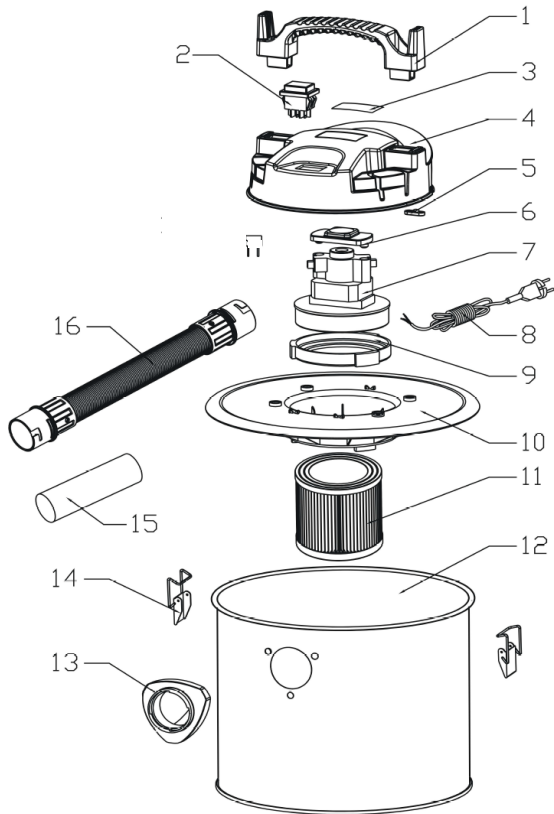

Рис. 1 / Vykres / Kreslenie / Obrazek / Рисуване / Desen / Kép / Рис. / Мал.
Before connecting the hose, install the housing lid (Fig. 1, Pos. 4) with the motor unit (Fig. 1, Pos. 7) onto the metal container (Fig. 1, Pos. 12).
2. Secure the lid using the lid clamps (Fig. 1, Pos. 5) by pressing them firmly against the housing.
1. To connect the hose to inlet A (suction), insert the metal hose (Fig. 1, Pos. 16) into the inlet port (Fig. 1, Pos. 13) and turn it counterclockwise until it locks in place. To disconnect, turn it clockwise and remove the hose.
1. Before emptying the tank, switch off the vacuum cleaner using the power switch (Fig. 1, Pos. 2) and unplug the power cord (Fig. 1, Pos. 8) from the socket. Wait for the motor to come to a complete stop.
2. Release the lid clamps (Fig. 1, Pos. 5) securing the housing lid (Fig. 1, Pos. 4). Carefully lift the lid along with the motor unit (Fig. 1, Pos. 7) and place it on a clean, dry surface.
3. Carefully empty the collected ash and dust from the metal container (Fig. 1, Pos. 12) into an appropriate waste bin. If necessary, use a soft brush or dry cloth to clean the inner walls of the container.
4. Inspect the filter (Fig. 1, Pos. 11). If it is clogged, gently shake off the accumulated dust. If heavily soiled, replace the filter or clean it according to the instructions.
5. Place the housing lid back onto the container, aligning the guides. Secure it by fastening the lid clamps (Fig. 1, Pos. 5). Ensure the lid is tightly sealed.